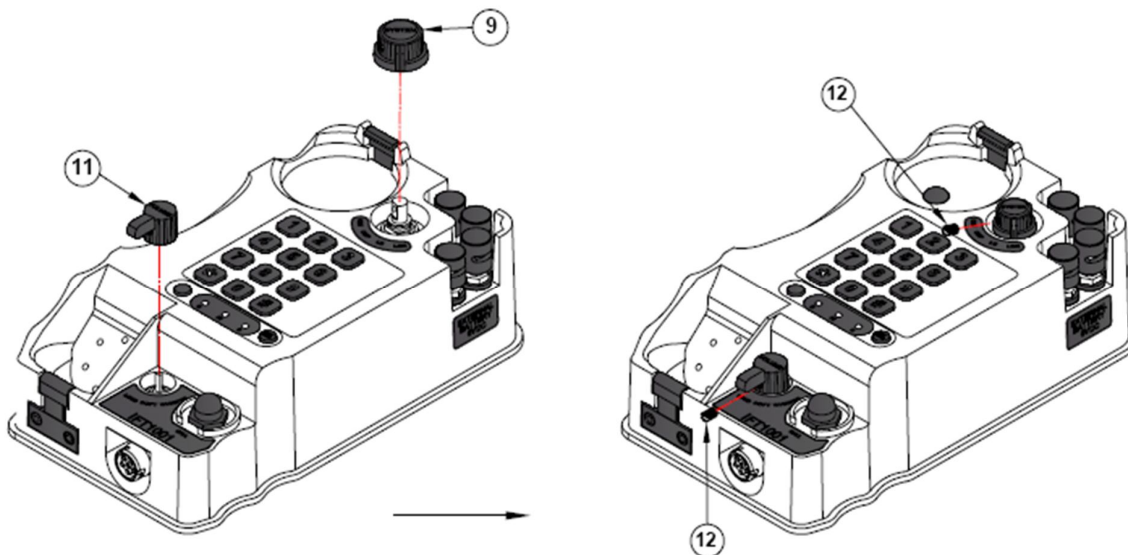

Figure 6 : Re-assembly of System and Volume switch knob
- c) Using screwdriver, unscrew the screw (marked as 12) in the Figure 6.
- b) Using screwdriver, tight the screw (marked as 12) in the Figure 6.